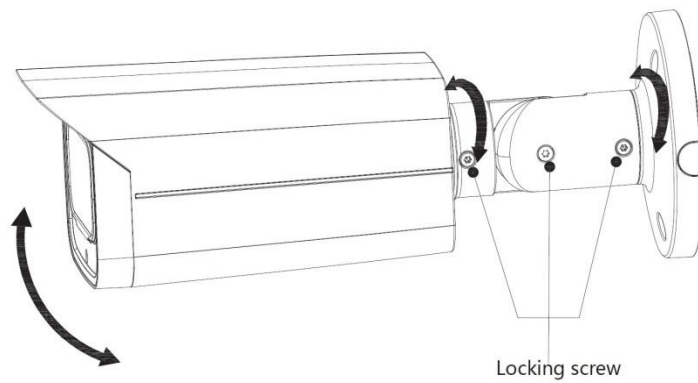

Figure 3-4
Step 1 Drill screw holes (and the cable outlet hole if it needs to go through the mounting surface) on the mounting surface⑤ as indicated on the positioning map.
- For masonry mounting surface, insert expansion bolts④ from the accessory pack in the screw holes.
Step 3 Adjust the location of the bracket③ according to cable outlet requirement (top out or side out), and then pull the cable out through mounting surface or the side cable tray.
Step 4 Align the screw holes on the bracket③ to those on the mounting surface, then put in and fasten the supplied self-tapping screws② to attach the device① to the mounting surface.
Step 5 Connect the camera to power source and the XVR device, and then aim the lens to the ideal angle, see Figure 3-3 or Figure 3-4.